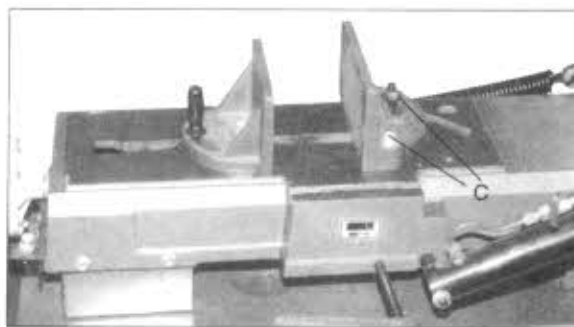

Fig.7
1. Remove bolt and nut assemblies (C, Fig. 7).
2. Position vise and re-install bolt assemblies as pictured in Fig. 7.